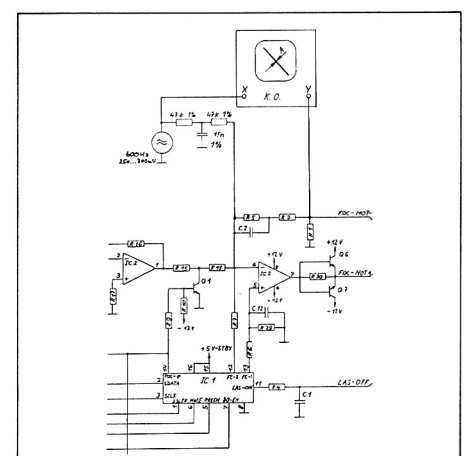

Fig. 4.16
- Connect AF generator to the X input of an oscilloscope and via an R-C-R element (according to Fig. 4.16) to pin 6 of IC2 (on 1.769.310/315), (f=600 Hz +/-5 Hz, U=250 to 300 mV RMS).